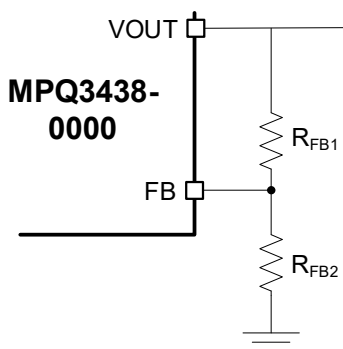

Figure1: Feedback Divider Network
7. The 12V output voltage (V_{OUT}) is set by an internal, integrated feedback resistor divider (see Figure 1).